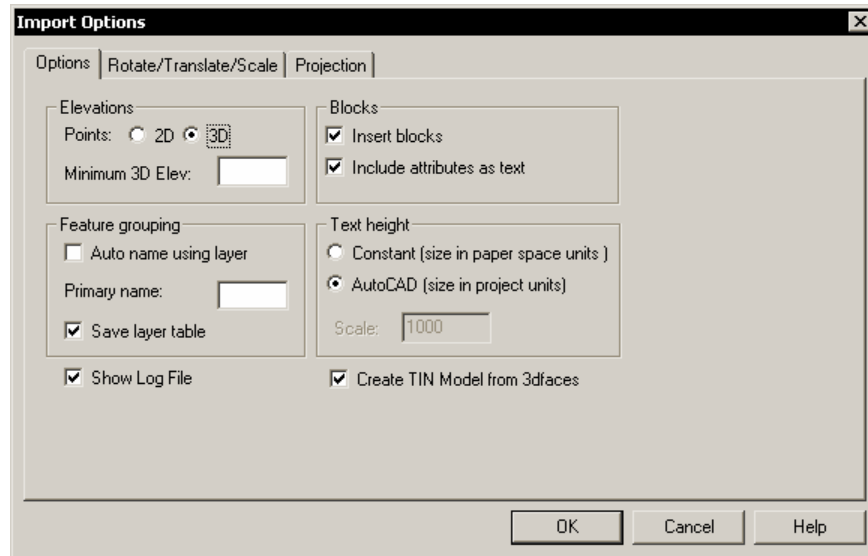

Figure 8.1: Import DWG/DXF Options Dialog
3. Set the dialog options to match those shown in Figure 8.1. Press OK.